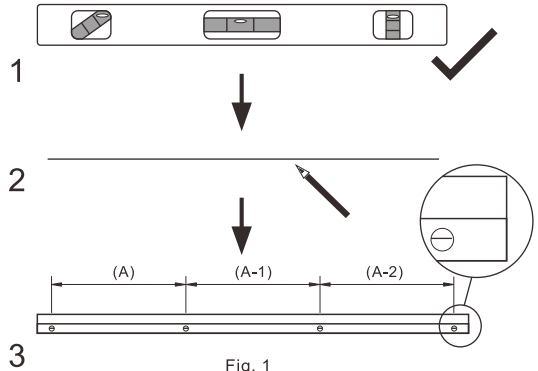

Fig. 1
- 1.2 After selecting the location of the mirror cabinet, check whether the wall is solid, measure the distance of the holes (A,A-1,A-2) in the aluminum alloy bar with a tape measure and mark it on the wall with a pencil (Fig. 1).